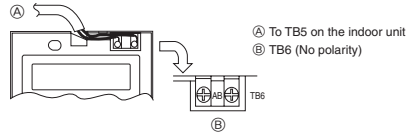

Fig. 6-5
2) Connecting procedures (Fig.6-5)